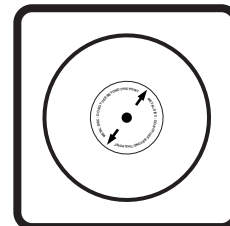

Fig. 2
- Do not use the pad beyond this point because there is an internal metal disk that could damage the surface. (See Fig. 2)
9. After you have removed material, there may be some residue. Use a clean cloth with mild automotive top coat polish to remove the residue. (See Fig. 2)